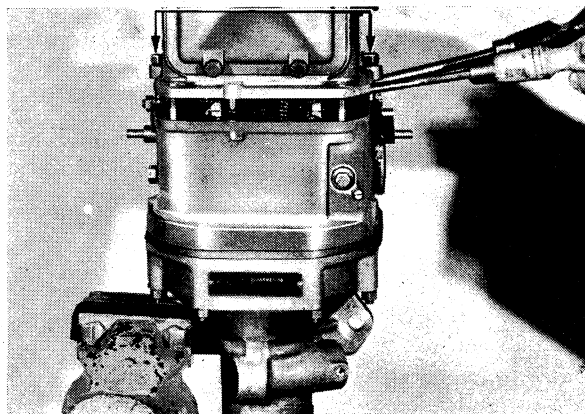

Fig. 35 Fitting Gearbox to Overdrive Unit. This operation is shown being carried out with a Vanguard unit.
17. Fit the gearbox assembly to the overdrive unit, holding the latter in a vice as shown in Fig. 35. It is necessary to depress the pump plunger with a screwdriver whilst carrying
to the overdrive unit, holding the latter vertically in the vice as shown in Fig. 35. After engaging top gear, turn the constant pinion until the splines in the overdrive unit mesh with those of the mainshaft. The eight springs are now located on their spigots and a nut and washer fitted to each long stud.